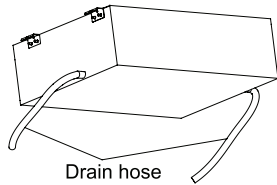

Fig.4.23
- (5). Use a suitable drain hose, and see Table 3 for its size.
- (6). There is a drain port on both the left and right sides. Select the drain port to match the local conditions.(Fig.4.23)
- (7). When the unit is shipped from the factory, the drain port is defaulted to be the one on the left side (electric box side), the port on right side has been plugged.